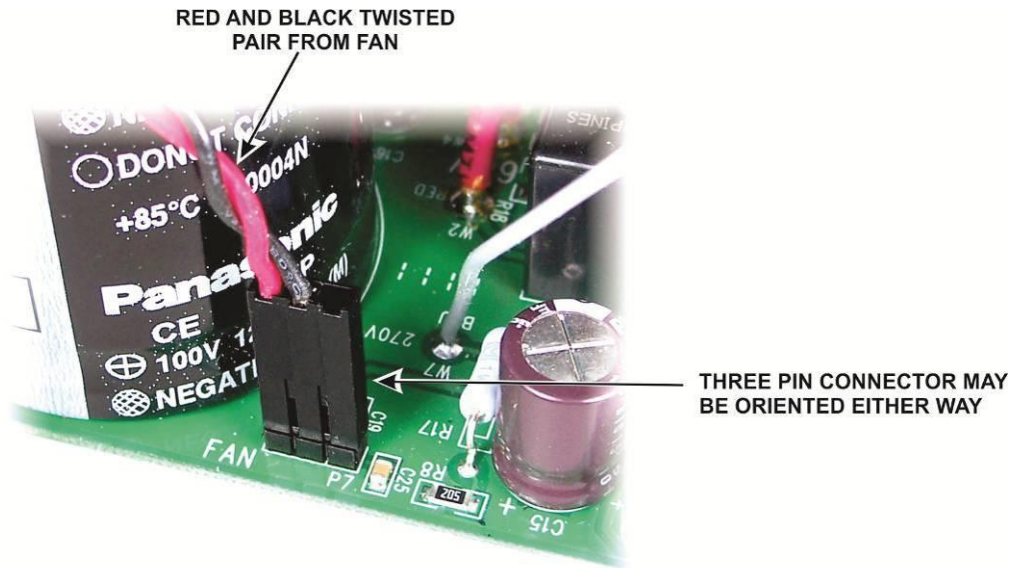

Figure 37. Connecting the Fan Cable to the Power Supply Module.
□ Connect the red/black twisted wire pair from the fan to the power supply module as shown in Figure 37. Note that although this is a three-pin connector, the connector on the pc board is wired so it may be plugged in either way. (The red wire can plug into either left or right pin. The black wire remains in the center.)